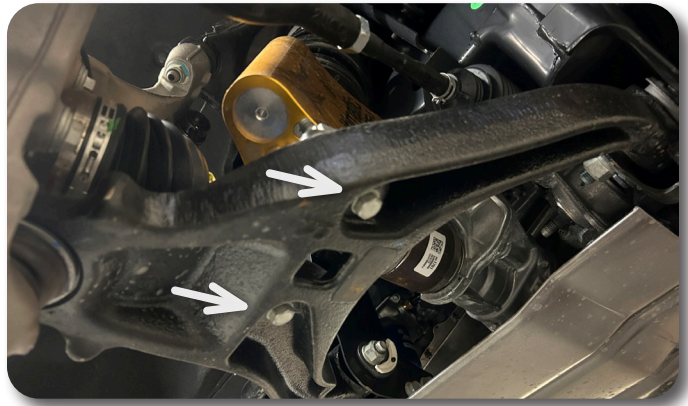

Figure 9
9. Remove the two lower strut bolt. Save hardware for later installation Figure 9